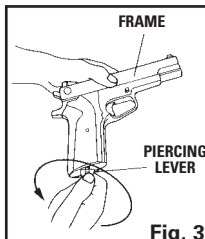

Fig. 3
- With one hand, hold the air pistol by the frame. With the other hand, slowly turn the piercing lever counterclockwise until it stops (Fig. 3).